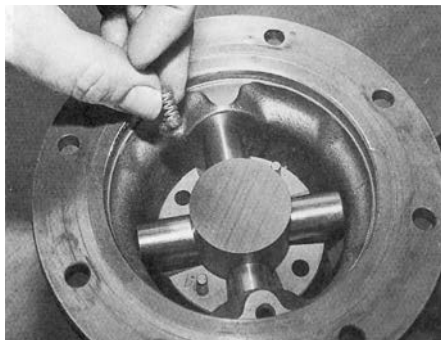

Figure 5. Place a double spring assembly into each oblong hole in the bottom driver and a stop pin into each round hole.
6. Place a double spring assembly (a small spring inside a large spring) into each oblong hole in the bottom driver and place a stop pin into each of the two round holes (Figure 5). **IMPORTANT!** The springs should be about flush with the surface of the driver and they must sit all the way in the bottom center of the oblong holes.